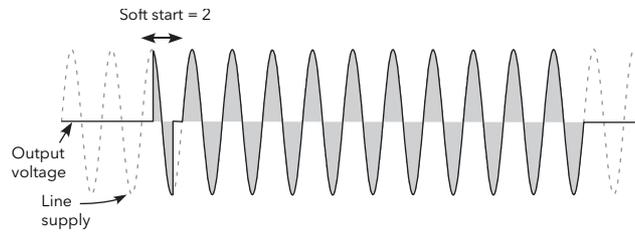

Figure 96 Soft start example
- Soft Start** For Burst Firing only, this is the soft start duration, in supply voltage cycles, applying a phase angle ramp at the beginning of each on period (Figure 96).